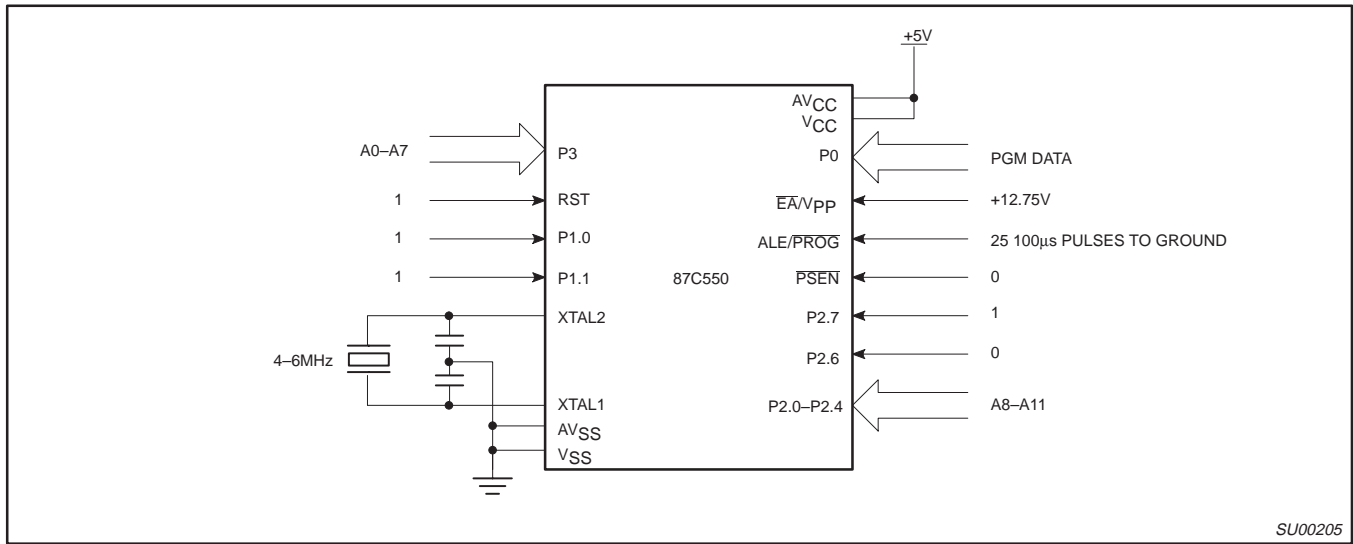
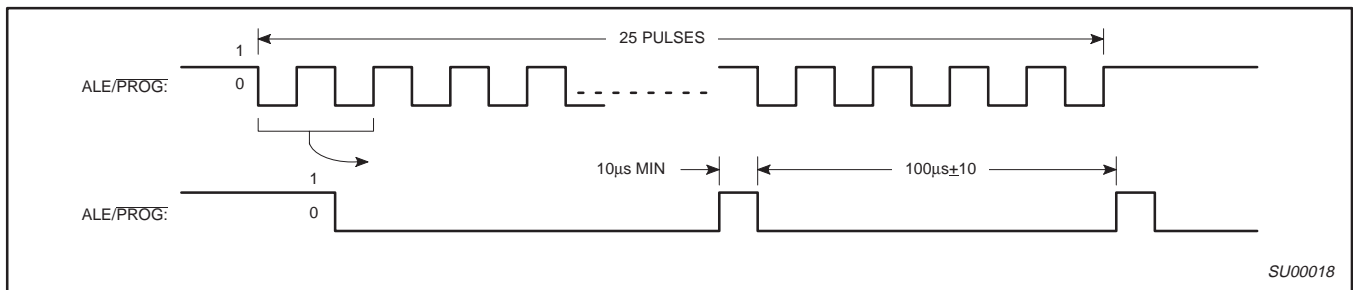
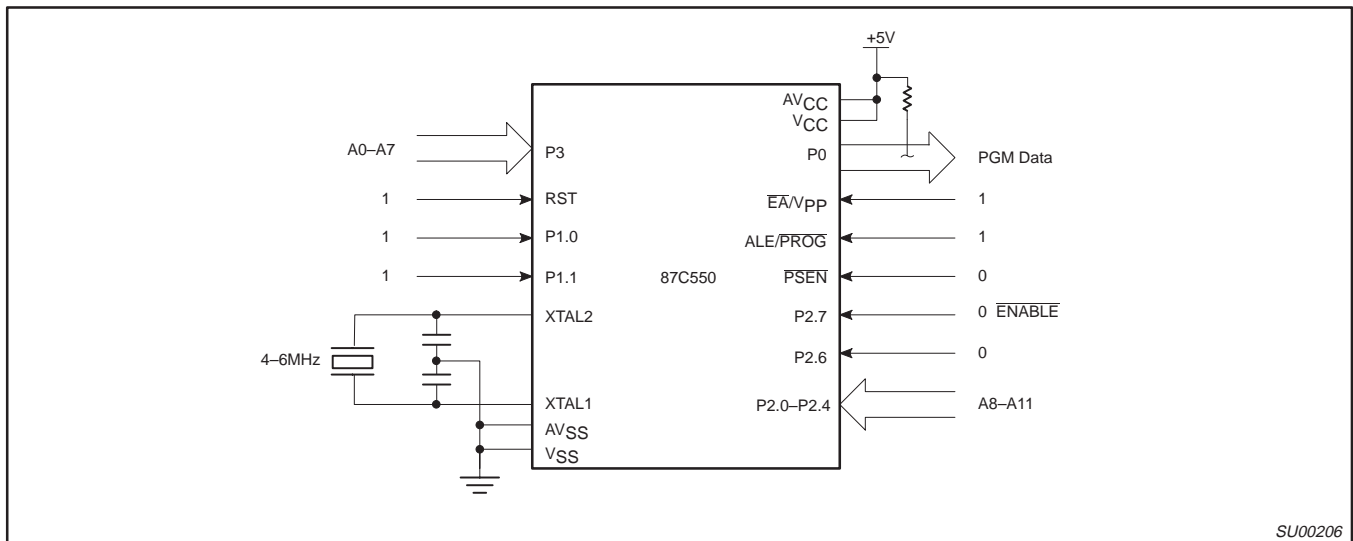

Figure 17. Programming Configuration
Figure 18. PROG Waveform
Figure 19. Program Verification
Table 4 shows the logic levels for reading the signature byte, and for programming the program memory, the encryption table, and the lock bits. The circuit configuration and waveforms for quick-pulse programming are shown in Figures 17 and 18. Figure 19 shows the circuit configuration for normal program memory verification.
The setup for microcontroller quick-pulse programming is shown in Figure 17. Note that the 87C550 is running with a 4 to 6MHz oscillator. The reason the oscillator needs to be running is that the device is executing internal address and program data transfers.
The address of the EPROM location to be programmed is applied to ports 2 and 3, as shown in Figure 17. The code byte to be programmed into that location is applied to port 0. RST, \overline{PSEN} and pins of ports 1 and 2 specified in Table 4 are held at the 'Program Code Data' levels indicated in Table 4. The ALE/PROG is pulsed low 25 times as shown in Figure 18.
If security bit 2 has not been programmed, the on-chip program memory can be read out for program verification. The address of the program memory locations to be read is applied to ports 2 and 3 as shown in Figure 19. The other pins are held at the 'Verify Code Data' levels indicated in Table 4. The contents of the address location will be emitted on port 0. External pull-ups are required on port 0 for this operation.
* FOR PROGRAMMING VERIFICATION, SEE FIGURE 17.
FOR VERIFICATION CONDITIONS, SEE FIGURE 19.